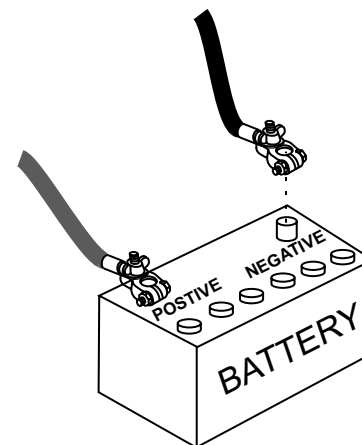

Figure 39. Battery Connections
3. Connect the negative battery cable (BLACK) to the negative post on the battery (Figure 39).